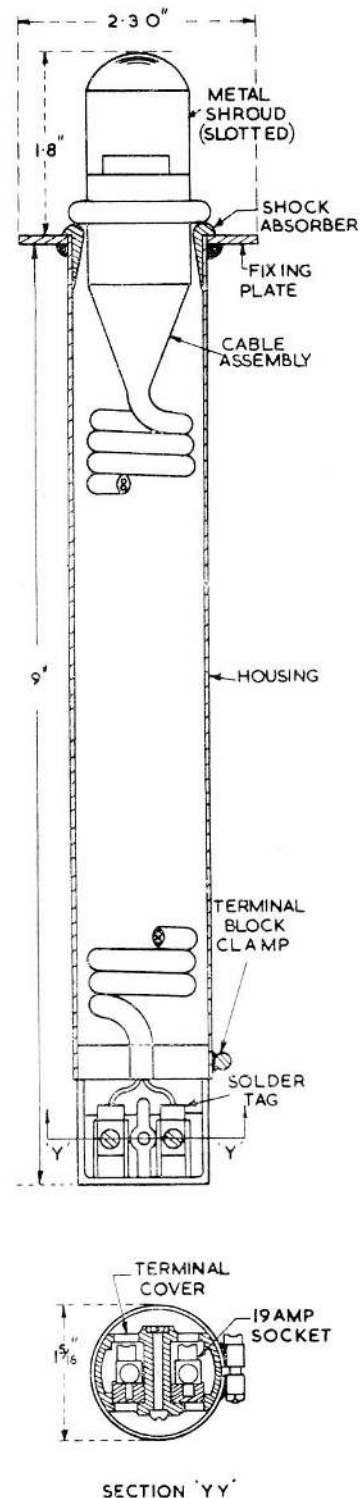

Fig. 2. Wander lamp
3. The lower end of the housing (*fig. 2*) is slotted and fitted with clamping lugs. This end of the housing is closed by the terminal block, which is held in place by an external 6 B.A. screw and nut clamping across the slot in the housing.